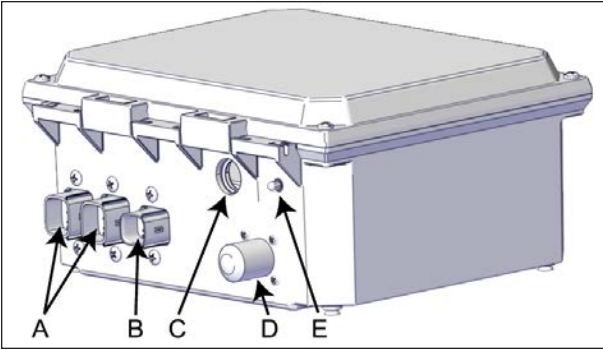

FIGURE 92: CONTROL BOX
3. Start by connecting the two motor jack harnesses to the AC control box, see Figure 92. Use the wires shown in Figure 7 in the Jack installation section. Put the exceeding wires as close to the spa as possible to hide and protect the wires.
4. Unpack the key switch and plug the harness into the AC control box, see item B in Figure 92.